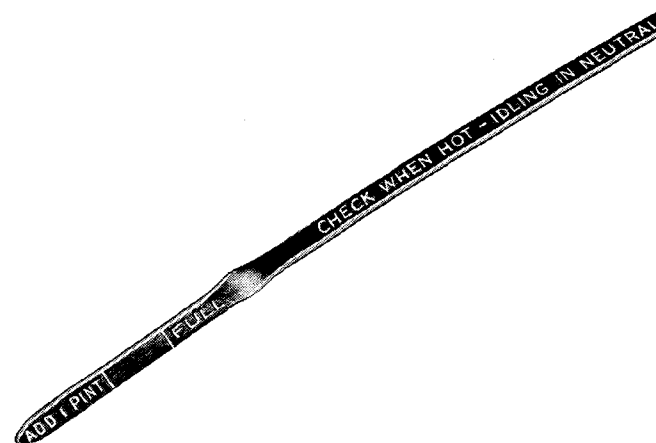

Fig. 2—Dip Stick Markings
(1) With parking brake on and engine idling, move selector lever into each position ending in the neutral position.
(2) The fluid level should check between the "FULL" mark and "ADD ONE PINT" mark, but never above the "FULL" mark when engine is at its normal warmed condition. Add or delete fluid as necessary to bring to this prescribed level (Fig. 2).
Recheck fluid level after transmission is at normal operating temperature. The level should be between THE "FULL" mark and "ADD ONE PINT" mark (Fig. 2).